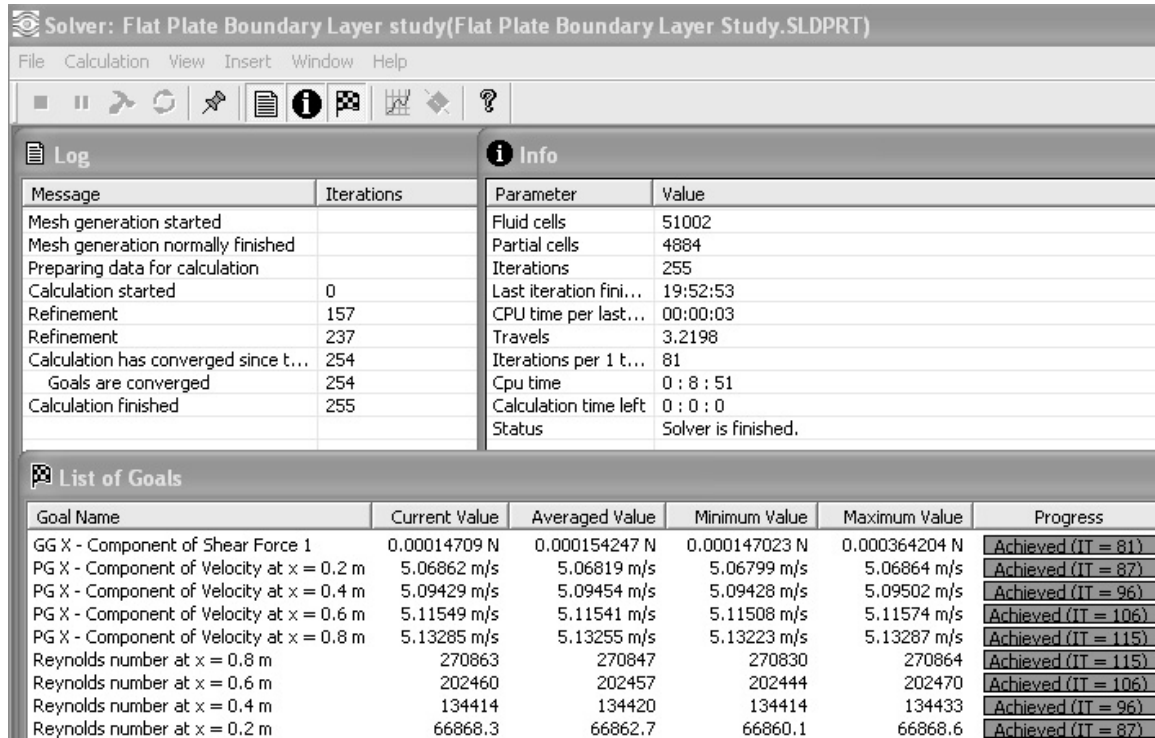
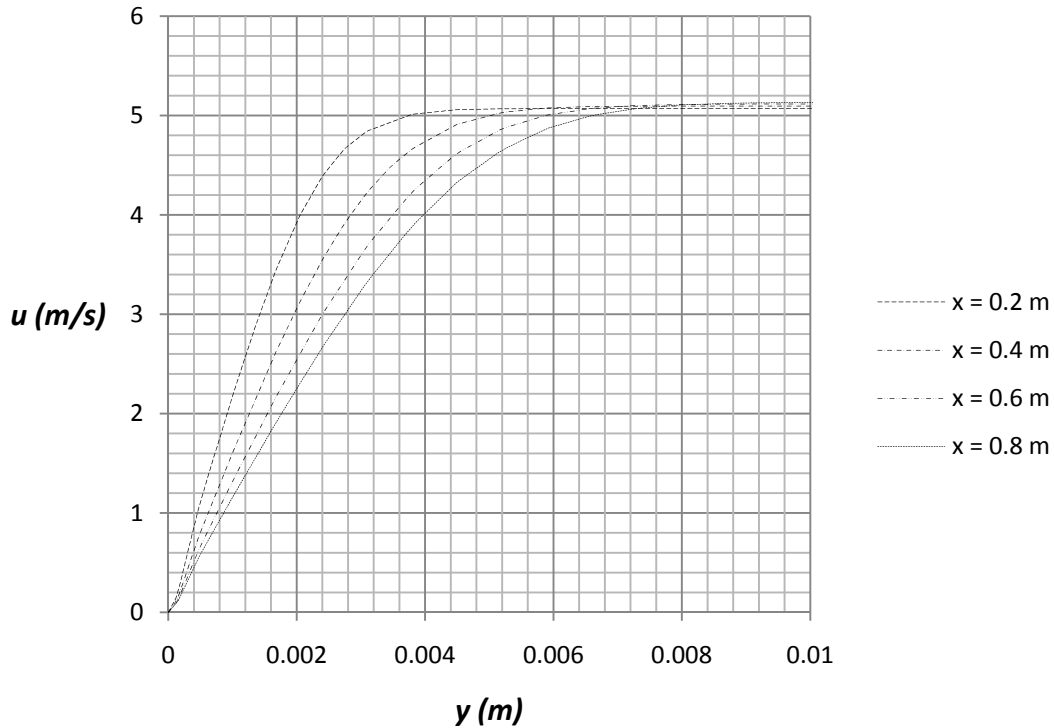

Figure 2.22c) Solver window
Figure 2.24c) Boundary layer velocity profiles on a flat plate at different streamwise positions
24. Place the file “xy-plot figure 2.24c)” into the **Local Disk (C:)/Program Files /SolidWorks (2)/SolidWorks Flow Simulation/lang/english/template/XY-Plots** folder to make it available in the **Template** list. Click on the  **FeatureManager design tree**. Click on the sketch **x = 0.2, 0.4, 0.6, 0.8 m**. Click on the  **Flow Simulation analysis tree** tab. Right click **XY Plot** and select **Insert...**. Check the **X-velocity** box. Open the **Resolution** portion of the **XY Plot** window and slide the **Geometry Resolution** as far as it goes to the right. Click on the **Evenly Distribute Output Points** button and increase the number of points to **500**. Open the **Options** portion and check the **Display boundary layer** box. Select the template “xy-plot figure 2.24c)” from the drop down menu. Click OK  to exit the **XY Plot** window. An Excel file will open with a graph of the velocity in the boundary layer at different streamwise positions, see figure 2.24c). Rename the inserted xy-plot in the Flow Simulation analysis tree to **Laminar Velocity Boundary Layer**.
From the data of figure 2.24c) we can see that the thickness of the laminar boundary layer is close to 3.88 mm at $Re_x = 66,900$ corresponding to $x = 0.2$ m. The free stream velocity at $x = 0.2$ m is $U = 5.069$ m/s, see figure 2.22c) for list of goals in solver window, and 99% of this value is $U_\delta = 5.018$ m/s. The boundary layer thickness from Flow Simulation was found by finding the y position corresponding to the U_δ velocity. This value of the boundary layer thickness can be compared with a value of 3.80 mm from equation (3). In table 2.1 are comparisons shown between boundary layer thickness from Flow Simulation and theory corresponding to the four different Reynolds numbers shown in figure 2.24c). The Reynolds number varies between $Re_x = 66,900$ at $x = 0.2$ m and $Re_x = 270,900$ at $x = 0.8$ m.
The average friction coefficient over the whole plate C_f is not a function of the surface roughness for the laminar boundary layer but a function of the Reynolds number based on the length of the plate Re_L , see figure E3 in Exercise 8 at the end of this chapter. This friction coefficient can be determined in Flow Simulation by using the final value of the global goal, the X-component of the Shear Force F_f , see figure 2.22c) and dividing it by the dynamic pressure times the area A in the X-Z plane of the computational domain related to the flat plate.